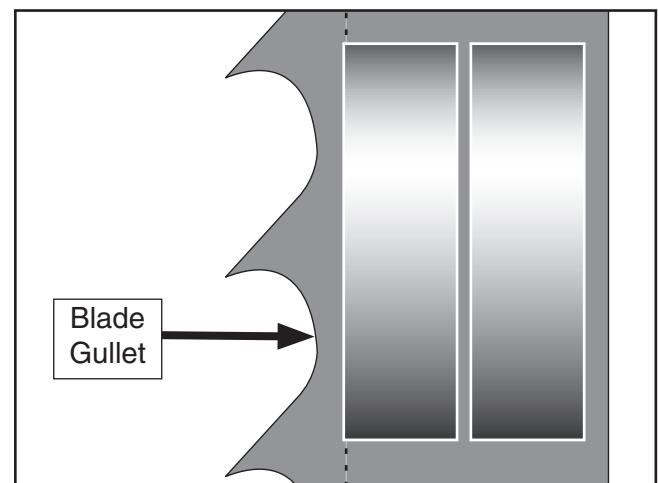

Figure 33. Lateral adjustment of blade guides.
4. Loosen the cap screw on the lateral adjustment rod and adjust the blade guides until the edges of the bearings are $\frac{1}{16}$ " behind the blade gullets as illustrated in **Figure 33**.